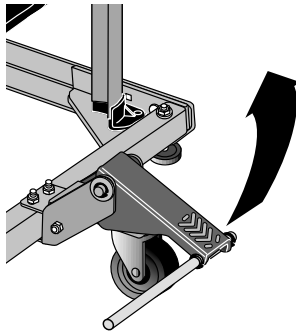

FIG. 10B
- Disengage castor assembly by raising the foot pedal (Fig. 10B), allowing the adjusting feet to contact the floor surface.